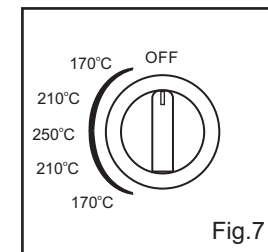

Fig.7
- For details of the oven temperature settings refer to the Table and Fig. 7 below